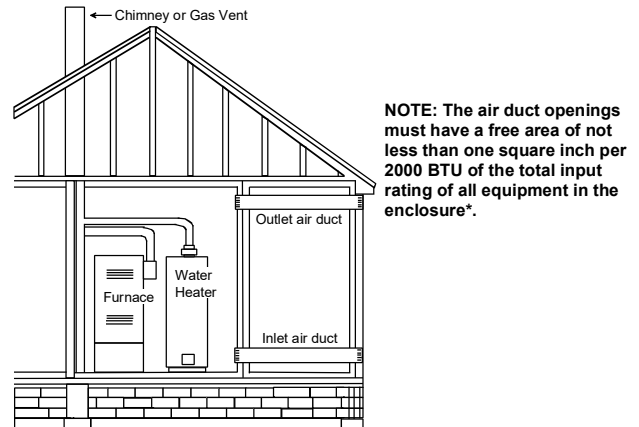

Figure A.9.3.3.1(2) All Combustion Air From Outdoors through Horizontal Ducts.
(1)*Where directly communicating with the outdoors or where communicating to the outdoors through vertical ducts, each opening shall have a minimum free area of 1 in.²/4000 Btu/hr (550 min²/kW) of total input rating of all appliances in the enclosure. [See Figure A.9.3.3.1(1)(a) and Figure A.9.3.3.1(1)(b).]
(2)*Where communicating with the outdoors through horizontal ducts, each opening shall have a minimum free area of 1 in.²/2000 Btu/hr (1100 min²/kW) of total input rating of all appliances in the enclosure. [See Figure A.9.3.3.1(2).]
9.3.3.2* One Permanent Opening Method. One permanent openings, commencing within 12 in. (300 mm) of the top of the enclosure, shall be provided. The appliance shall have clearances of at least 1 in. (25 mm) from the sides and back and 6 in. (150 mm) from the front of the appliance. The opening shall directly communicate with the outdoors or shall communicate through a vertical or horizontal duct to the outdoors or spaces that freely communicate with the outdoors (see Figure A.9.3.3.2) and shall have a minimum free area of the following: